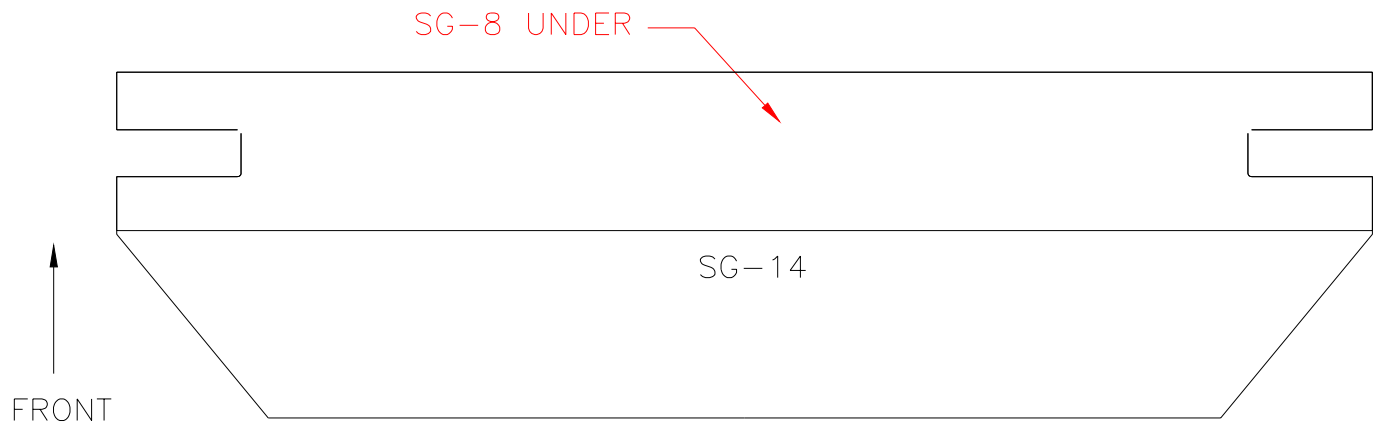

Figure 14.1.10
24) Clamp SG-8 under SG-14 and transfer all the holes. Figure 14.1.10.